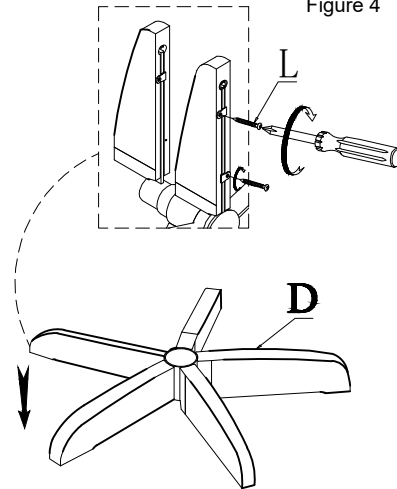

Figure 2
Step 2. Put Cover (F) on Pneumatic Cylinder (E) as Figure 2